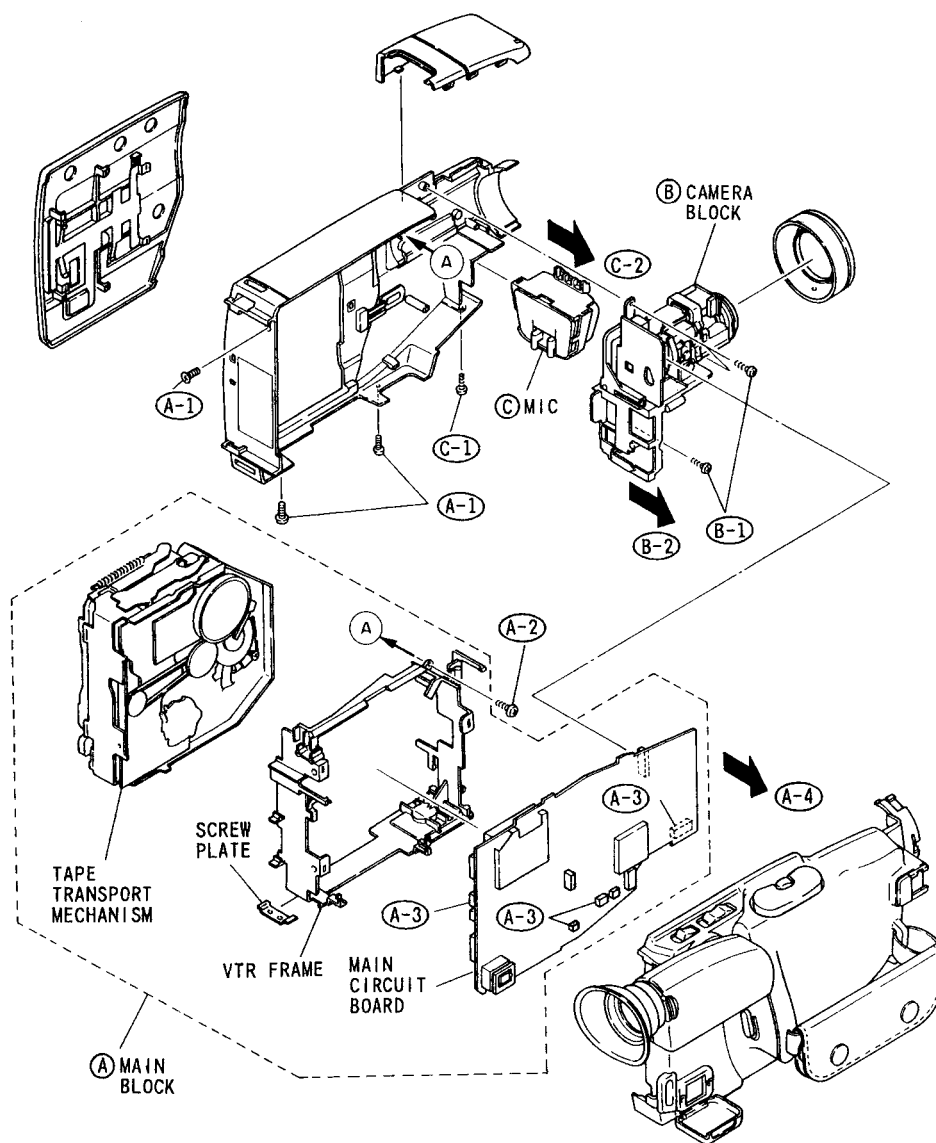

Fig. 3-4
A. Main Block (Main Circuit Board, VTR Frame, Tape Transport Mechanism) (Fig. 3-4)
- 1) Remove three (3) screws.
- 2) Remove one (1) screw.
- 3) Disconnect three (3) connectors and one (1) flat cable.
B. Camera Block (Fig. 3-4)
C. Microphone (MIC) and Left Case (Fig. 3-4)